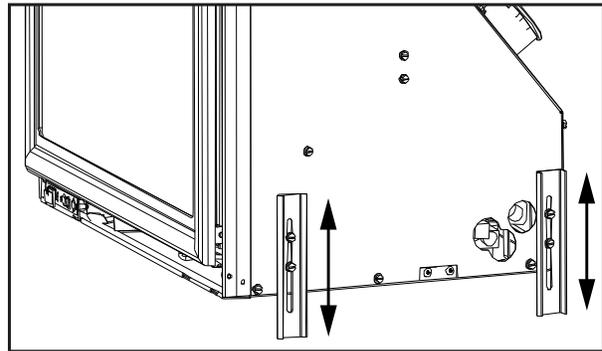

Figure 29: Levelling legs position.
5. If the fireplace opening is lower than 19" (483mm), remove the vent collar plate from the top of the insert by unscrewing the two (2) T-20 Torx screws located on the center top of the stove, and the four (4) screws at the rear draft hood box. Slide the collar plate backwards. Properly secure the vent collar plate to the flexible vent pipe liner(s) previously installed in the chimney. Be careful not to over-stretch the liner(s).
8. Using a $\frac{1}{4}$ " hex driver, adjust the levelling legs to ensure the unit is level and high enough if a base shelf and/or riser is to be installed. There are two (2) levelling legs on each side (shown in Figure 29).